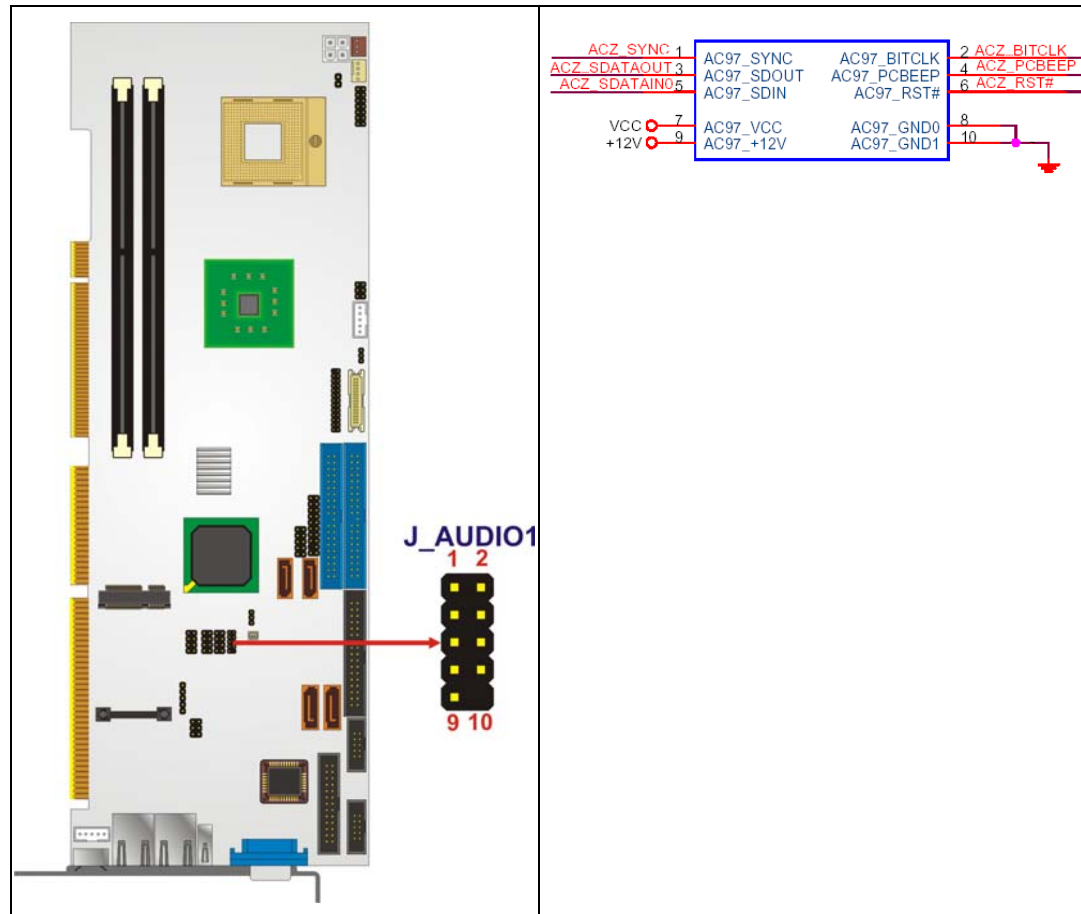

Figure 4-2: Audio Connector Location
- CN Location:** See Figure 4-2